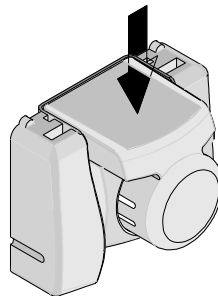

Figure 5B
5. Press the red insert down as far as it will go as shown in Figure 5B.
6. Holding onto the lower part of the locator with your thumb and index finger, insert the locators top hooks (2) into the hand tool top slots.